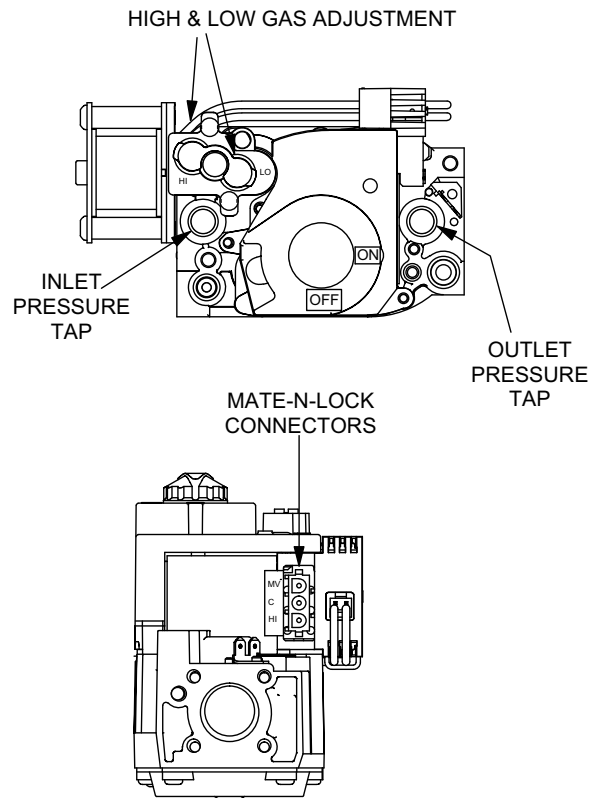

FIGURE 27 - TYPICAL GAS VALVE
3. Turn gas valve counter-clockwise to "ON" position (see Figure 27).
4. Turn gas valve clockwise to "OFF" position (See Figure 27).
This gas furnace has two heat stages. Therefore, the gas valve has two adjustment screws located under a plastic protective cover. The second stage (100% input) adjustment screw is adjacent to the "HI" marking on the valve and the first stage (60% input) adjustment screw is located adjacent to the "LO" marking on the valve (See Figure 27).